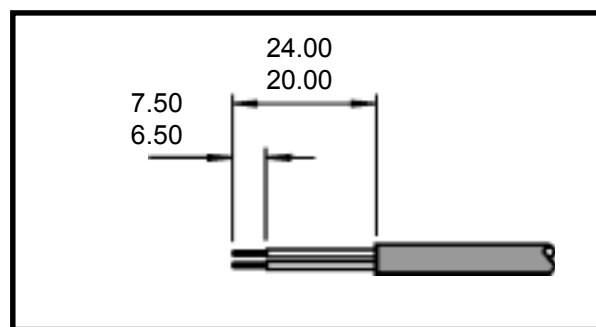

Fig 3.3 DETAILS OF INSULATION REMOVAL
3. Using wire strippers remove insulation on the ABS harness sensor ext.cable.(see Fig 3.3)